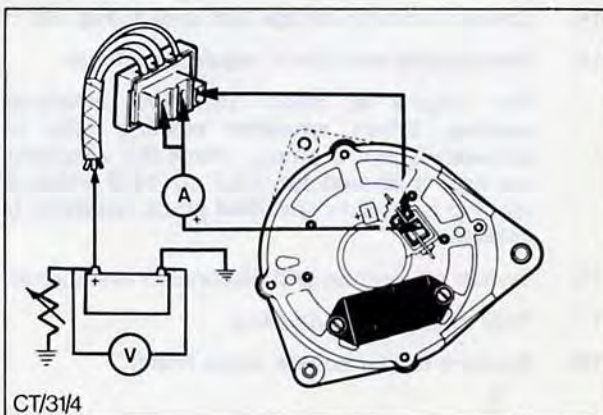

Fig. 10. Checking alternator output
5. Connect output test circuit, Fig. 10.